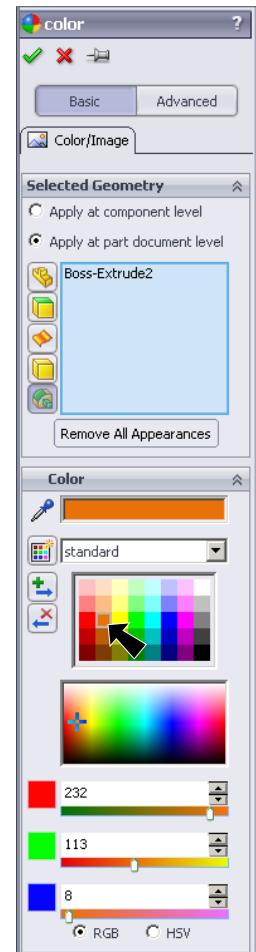

Fig. 10
Step 2. In the Appearances Property Manager; under Color click **Orange** swatch, Fig. 10 click OK .